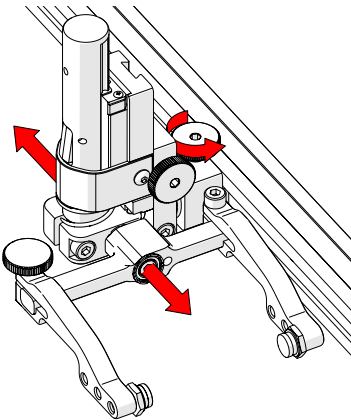

Fig. 100 - Adjust on frame bar
1. The probe holder adjustment knob allows the probe holder to be attached to a frame bar, as well as horizontal positioning on a frame bar (Fig. 100).